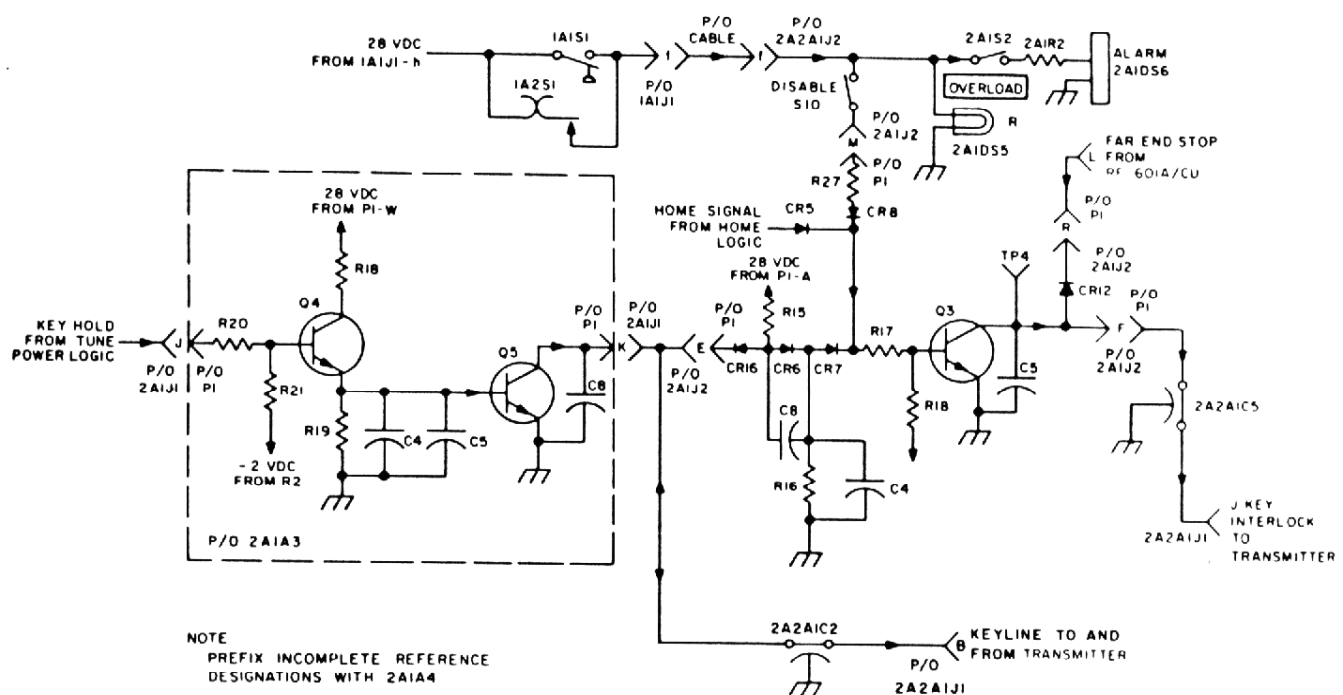

Figure 4-14. Keying Logic, Simplified Schematic Diagram
The keying logic (figure 4-14) consists of a dc amplifier (2A1A3Q4), two inverters (2A1A3Q5 and 2A1Q4Q3), the RF-601A/CU pressure and temperature overload circuitry, and various other gates and parts. The functions of this circuit are: (1) to interlock the keyline to prevent keying during the home cycle, (2) to hold the system being keyed if there is a temperature or pressure overload or if one of the tuning elements is run against its far end stop. The keying portion of the circuit is used only during automatic operation. However, the interlock portion of the circuit is used in all modes of operation.